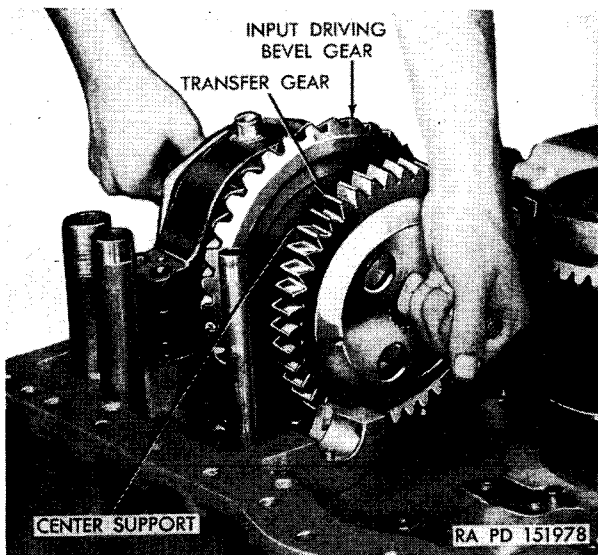
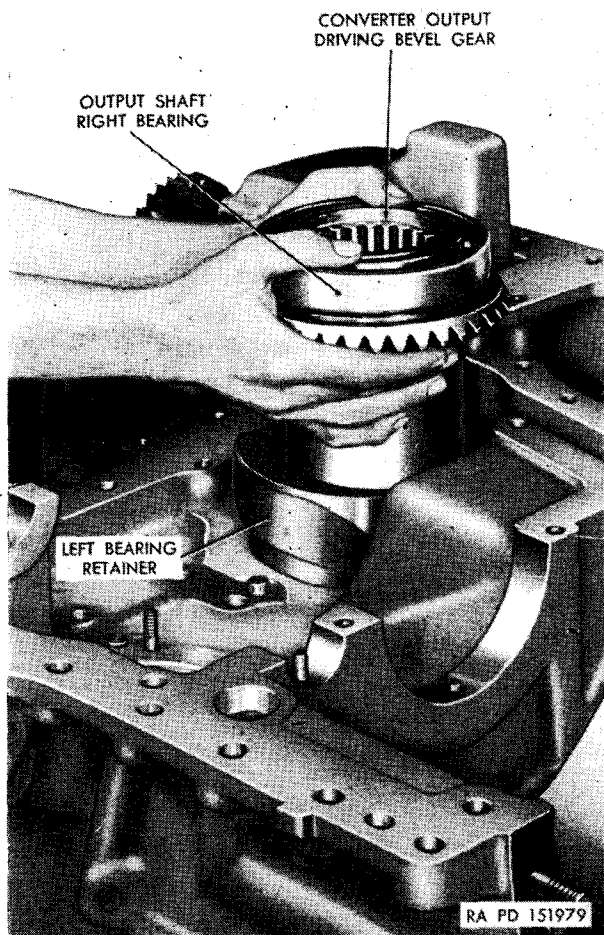

Figure 239. Removing or installing input gearing.
Figure 240. Removing or installing converter output gearing.
- (3) Install a rod through the input shaft and remove the input bevel gearing and transfer gearing as an assembly (fig. 239). Remove the converter output shaft and bevel gear assembly (fig. 240). Remove